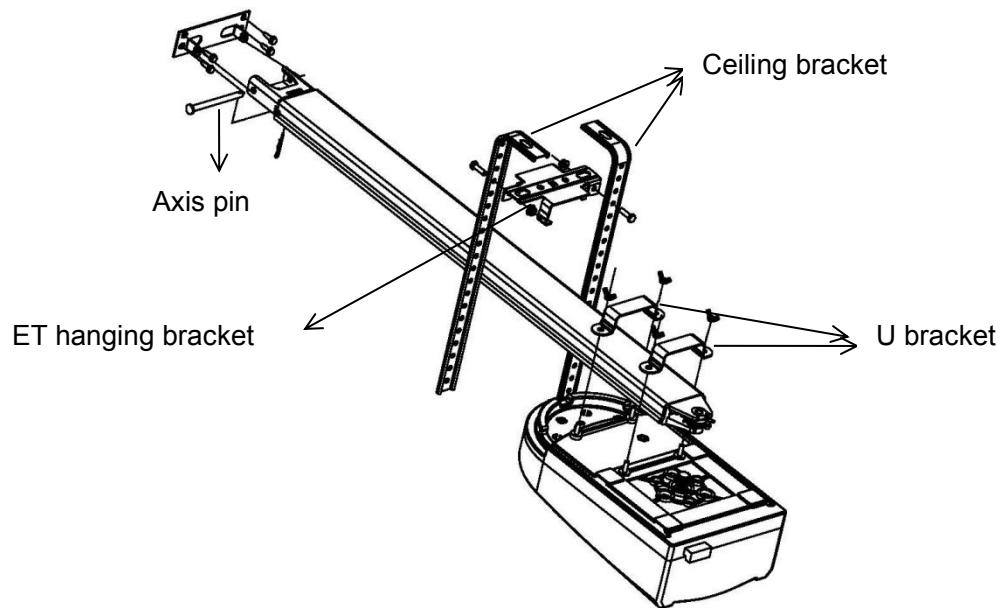

Fig. 10
2. Fixing the steel track to the wall bracket with axis pin. (Fig. 10)